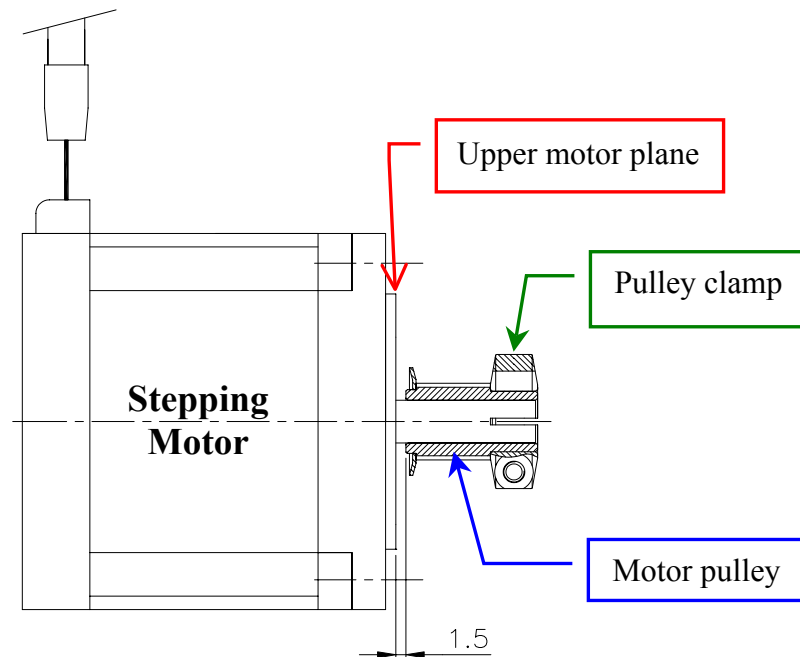

Fig. 65 - Plate Motor scheme
16. Position the motor pulley to 1.50 mm with respect to upper motor plane (Fig. 65), then tighten the pulley clamp screw (Fig. 62).
20. Position the motor pulley to 1.50 mm with respect to upper motor plane (Fig. 65), then tighten the pulley clamp screw (Fig. 62).
19. Position the motor pulley to 1.50 mm with respect to upper motor plane (Fig. 65), then tighten the pulley clamp screw (Fig. 62).